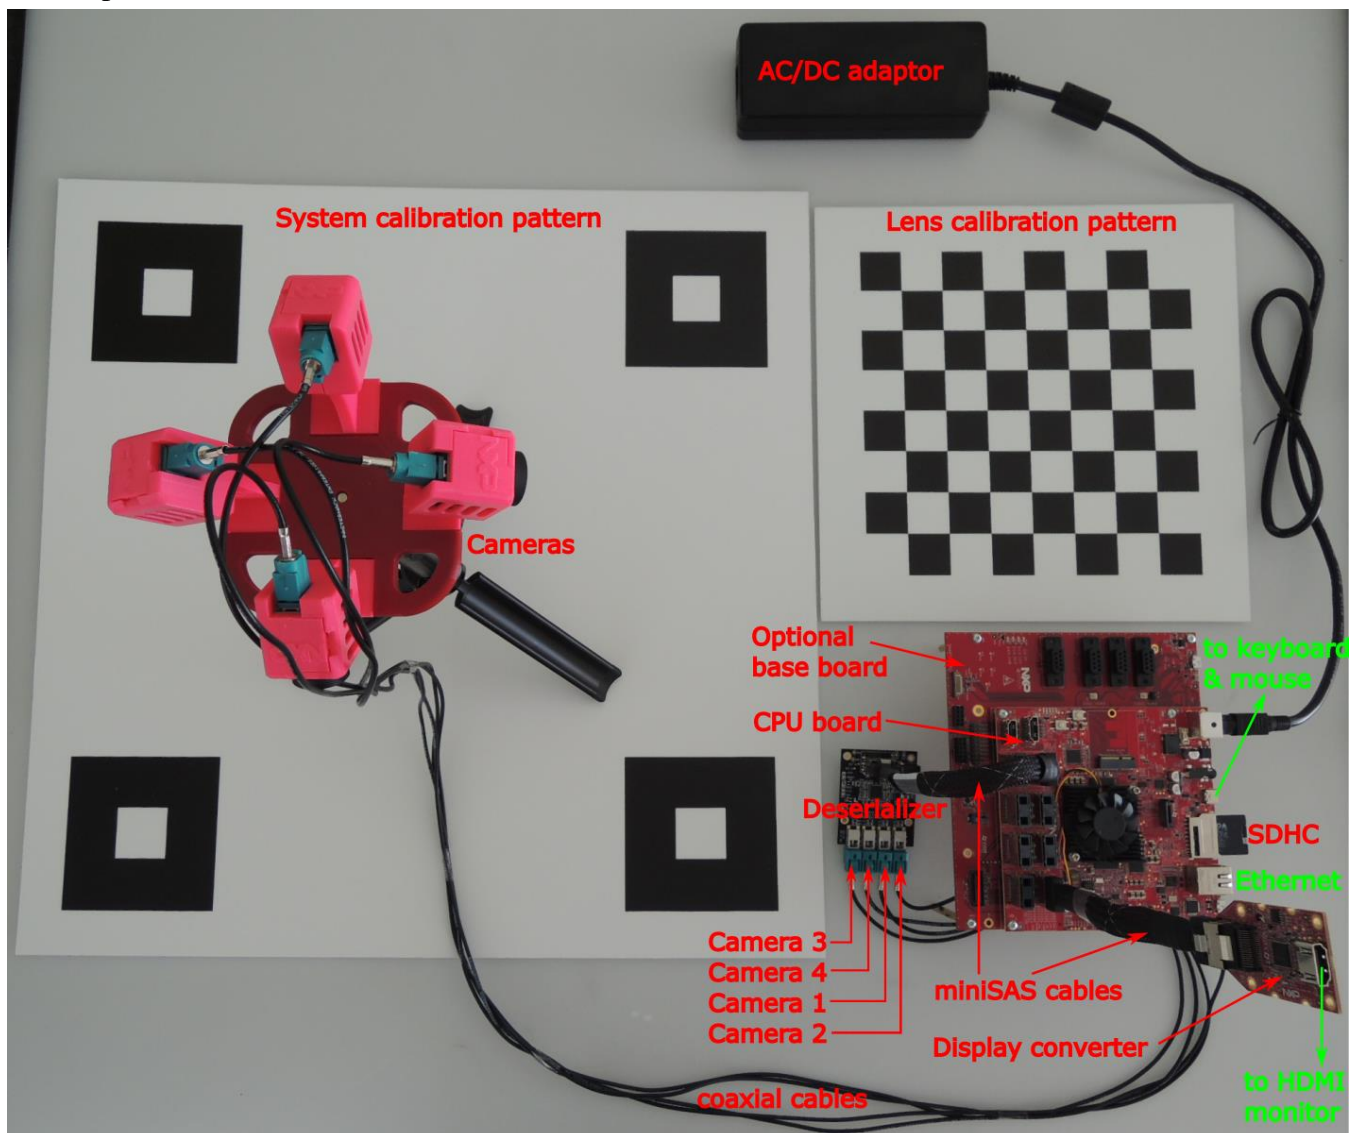

Figure 1. Surround View development platform based on i.MX 8QM device
The Surround View development platform consists of the parts listed in Table 1 (see also Figure 1). It is assumed that you can build the demo kit yourself using all released hardware and software sources.
- Connect all boards as shown in Figure 1. Connect the deserializer to the MIPI-CSIO connector and the display converter to the LVDS0-CH0 connector on the CPU board. Interconnect these boards using miniSAS cables.
- Interconnect all cameras with the deserializer using the coaxial cables. Keep the right camera order (see Figure 1). Keep the clockwise camera connection on the camera stand. That means